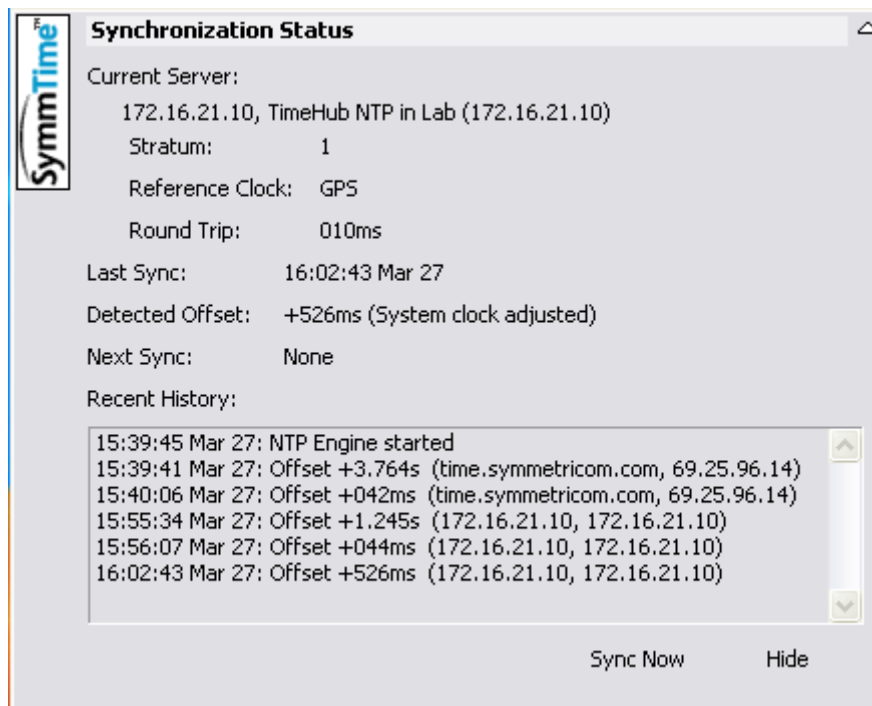

Figure 1-6. The Synchronization Status Window in SymmTime
9. Right-click anywhere in the SymmTime window and select Sync Status... The Synchronization Status window appears as shown in Figure 1-6.